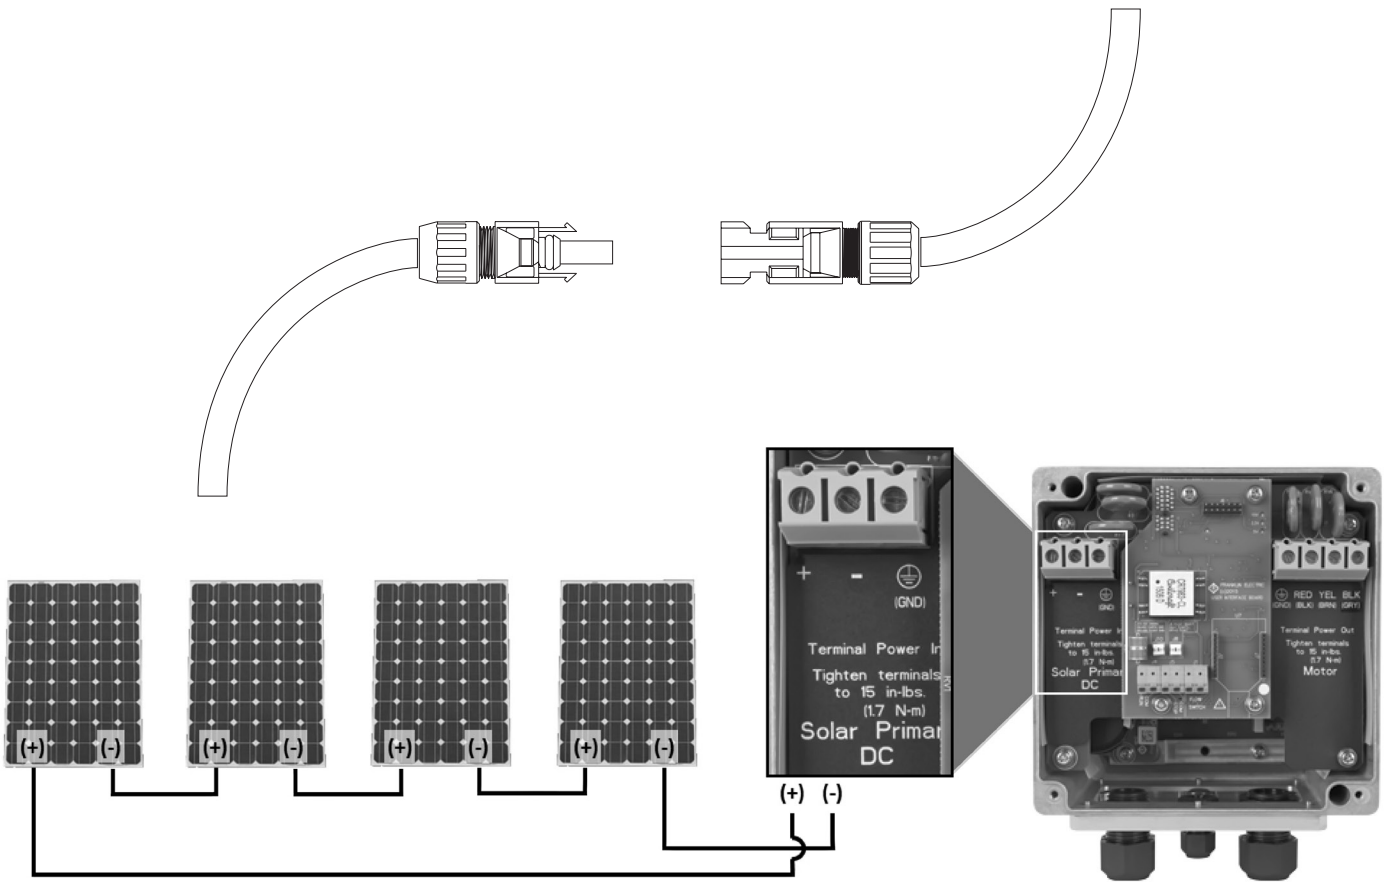

Figure 12-1: PV Solar Panel Connections
- C. Begin with upper left unit. Connect in series as shown in figure 12-1, making sure to seat each connector firmly. Connectors will click.